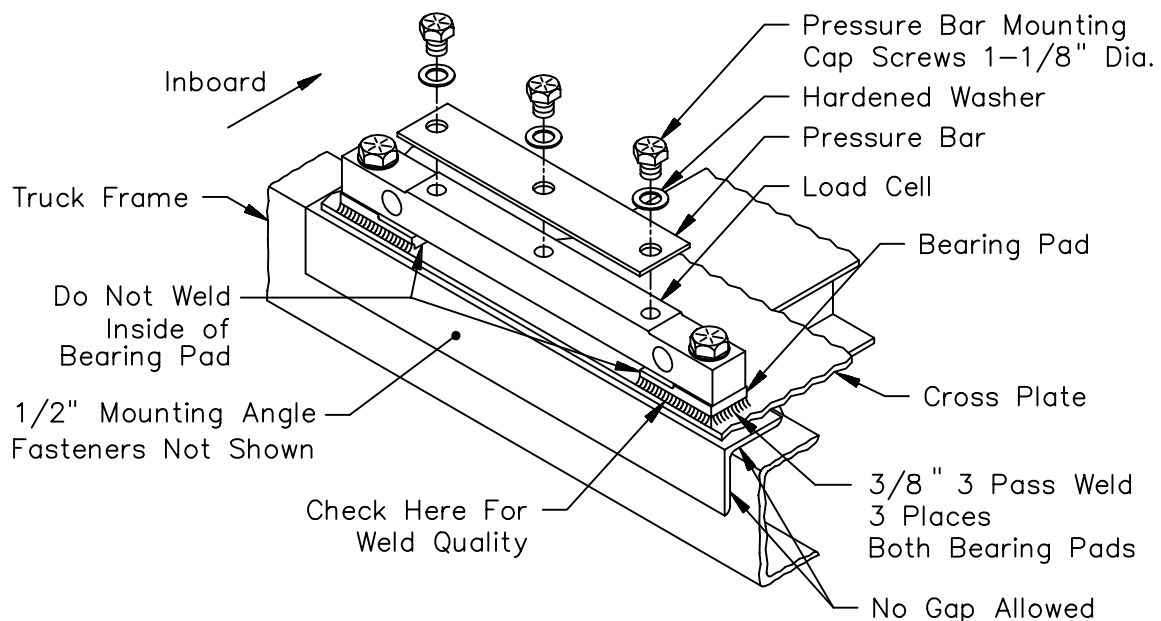

Figure 140-B
4. Remove the 1-1/4" diameter end cap screws, lift the bolster and the load cell assembly away, and complete welding of the bearing pads. **Note:** All welding and welding procedures must meet the American Welding Society specifications. Bearing pads must be welded securely on the three sides as shown in Figure 140-B.